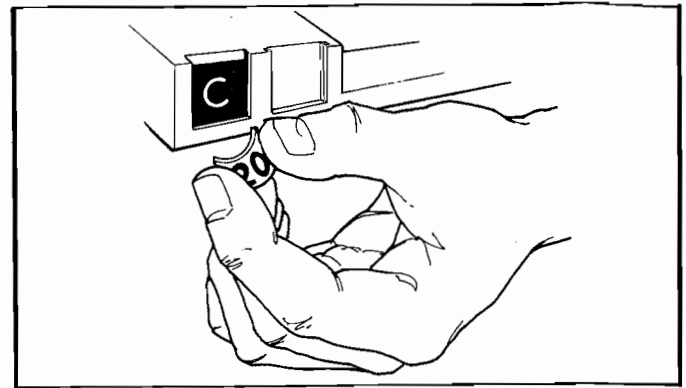
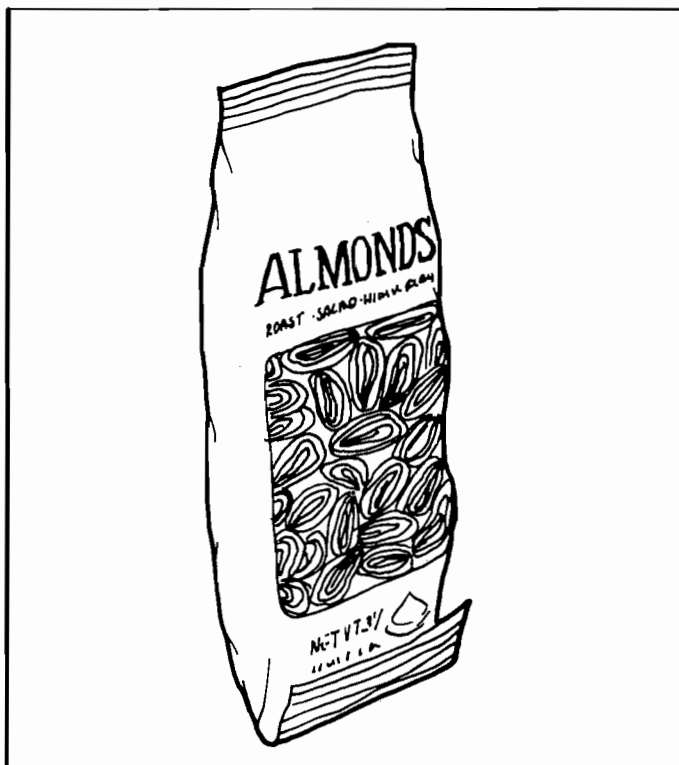

Figure 9. INSTALLING PRICE TABS.
Figure 8. FOLD BAGGED ITEMS BOTTOM EDGE FORWARD AND UP.
9. **BAGGED ITEMS** in the 8-selection shelves if not loaded properly could be a problem. The sealed edge of the bag may get under the spiral wire causing the product to hang up after it has been vended. It is recommended that the lower edge on these types of product be folded forward and up (see Figure 8) next to the product before inserting into the spiral space.
11. **LOCK PRODUCT SHELVES.** After all the product has been loaded be sure all shelves are returned to their vend position behind the front roller guide (page 16, item 28).
12. **INSTALL PROPER PRICE TABS** into price tab holder for each selection in the main product area. (See Figure 9.)